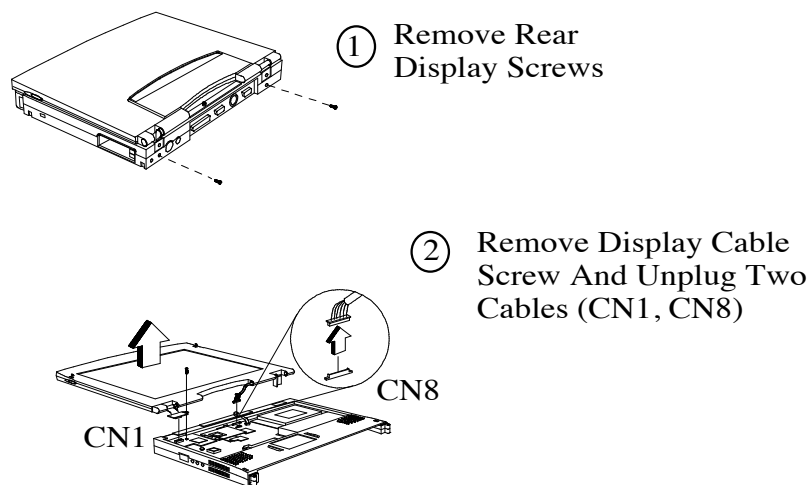

Figure 6-12 Removing/Replacing the Display Assembly
4. Refer to Figure 6-12 and remove the two rear screws that secure the Display to the notebook housing. **Note:** You don't have to remove the leftmost screw.